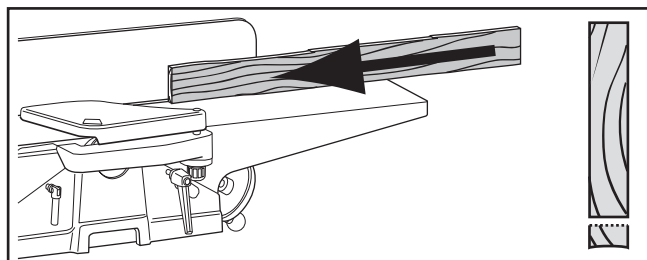

Figure 42. Edge jointing on a jointer.
1. Edge joint concave edge of 2x4 flat on a jointer, as shown in **Figure 42**.